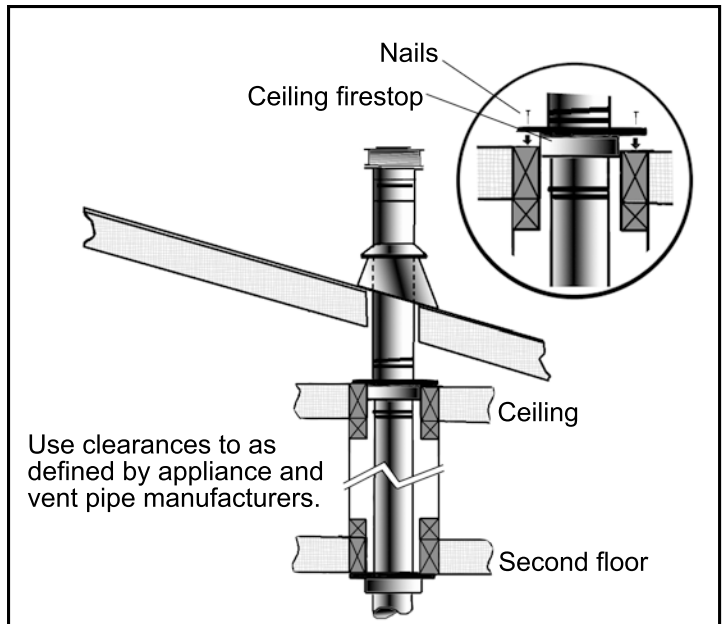

**Figure 31: Use of Wall Straps.**
- (1)** If an offset is necessary in the attic to avoid obstructions, it is important to support the vent pipe every 3 feet (914 mm), to avoid excessive stress on the elbows, and possible separation. Wall straps are available for this purpose (see Figure 31).
- (2)** When ever possible, use 45° degree elbows instead of 90° degree elbows. The 45° degree elbow offers less restriction to the flow of flue gases and intake air.